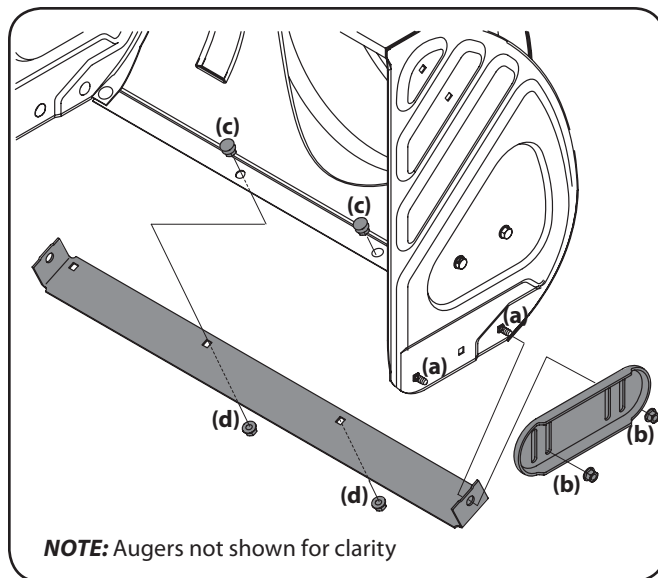

Figure 6-1
2. Reassemble new skid shoes with the four carriage bolts (a) (two on each side) and hex flange nuts (b). Refer to Figure 6-1.